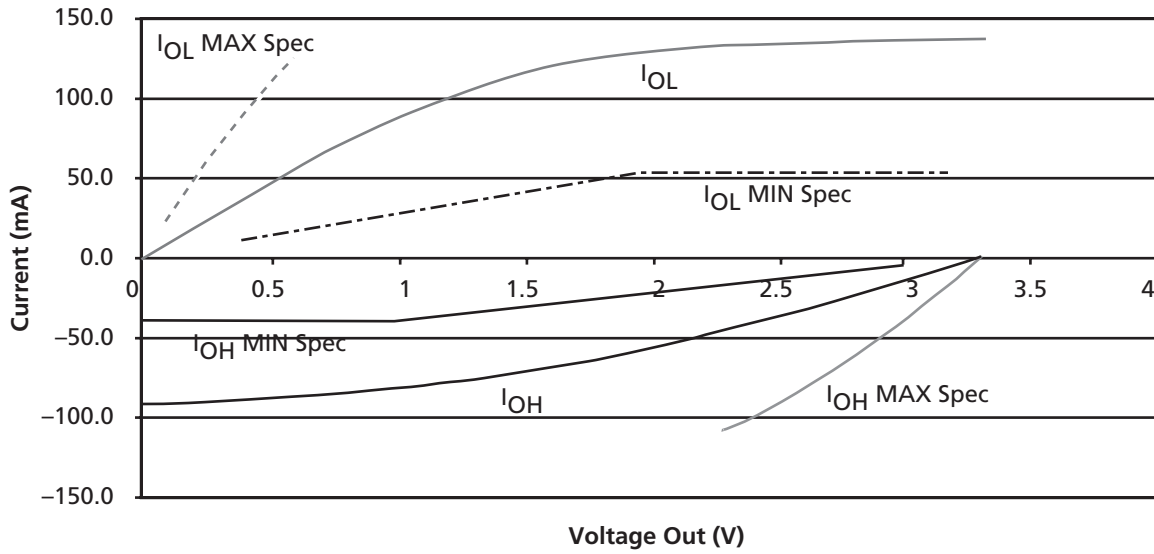

Figure 1-12 • 3.3V PCI V/I Curve for Automotive-Grade SX-A Devices
1. Refer to the V/I curves in Figure 1-12 on page 1-16. Switching current characteristics for REQ# and GNT# are permitted to be one half of that specified here; i.e., half size output drivers may be used on these signals. This specification does not apply to CLK and RST#, which are system outputs. "Switching Current High" specifications are not relevant to SERR#, INTA#, INTB#, INTC#, and INTD#, which are open drain outputs.
2. Maximum current requirements must be met as drivers pull beyond the last step voltage. Equations defining these maximums (C and D) are provided with the respective diagrams in Figure 1-12 on page 1-16. The equation defined maximum should be met by design. In order to facilitate component testing, a maximum current test point is defined for each side of the output driver.
Figure 1-12 shows the 3.3V PCI V/I curve and the minimum and maximum PCI drive characteristics of the automotive-grade SX-A devices.